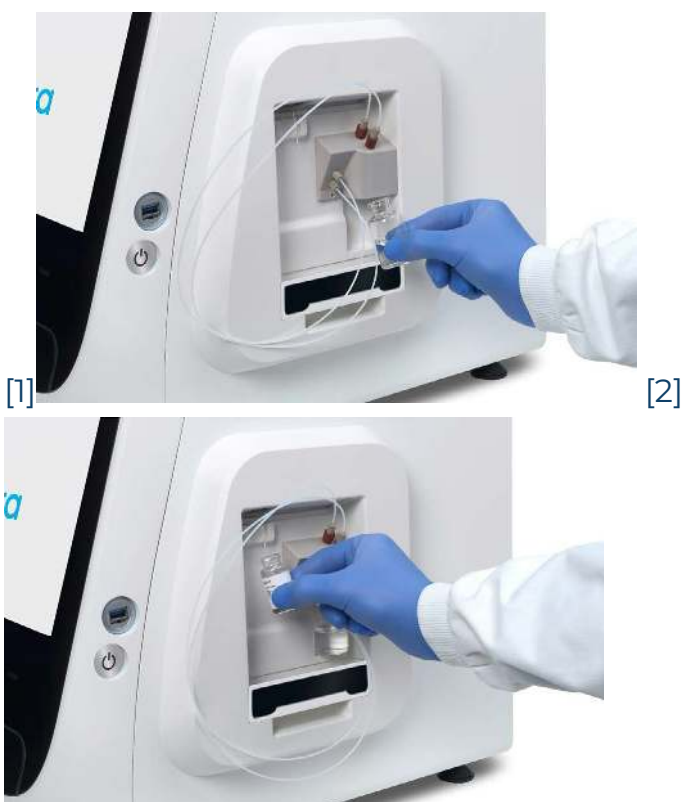

Figure 6: Connection of the empty waste container [1] and the vial of base fluid [2] to the pump
- Connect an empty waste vial to the right holder of the pump module (Figures 6 and 7).